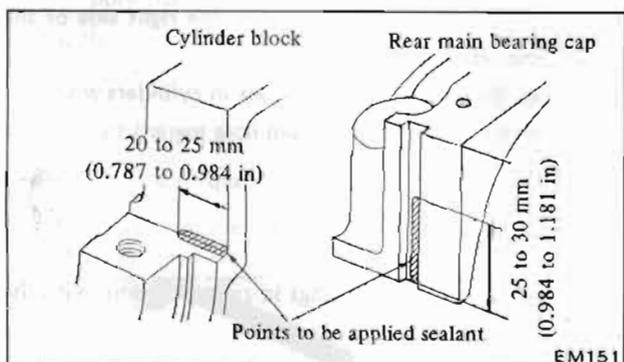

Fig. EM-69 Applying sealant
(3) The main bearing cap and cylinder block: Each side of the rear main bearing cap and each corner of the cylinder block. See Figure EM-69.
- a. Apply sealant to each side of the rear main bearing cap and each corner of the cylinder block as shown in Figure EM-69.